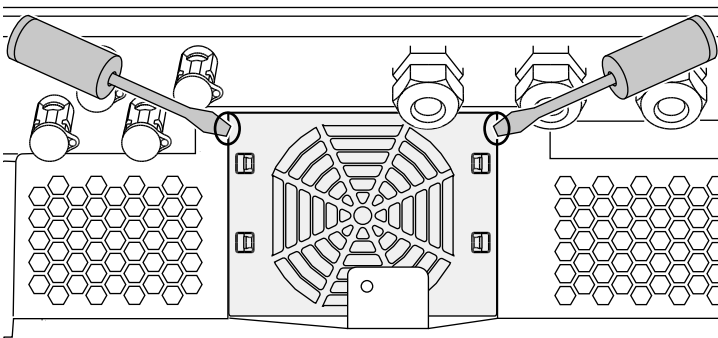

Fig. 68: Loosen fan grill
2. Dismantle the fan. To do this, place a screwdriver at the edge of the fan grill and apply a little pressure to the fan grill. ↗️ **Fig. 68**